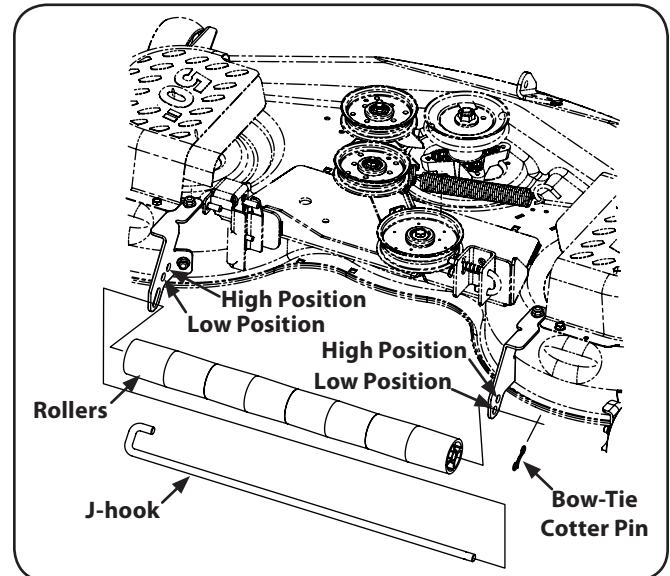

Figure 6-7
1. To change the height of the rollers, remove the bow-tie cotter pin and slide the J-hook out until the end is out of current height setting hole on the right side of the roller bracket. See Figure 6-7.